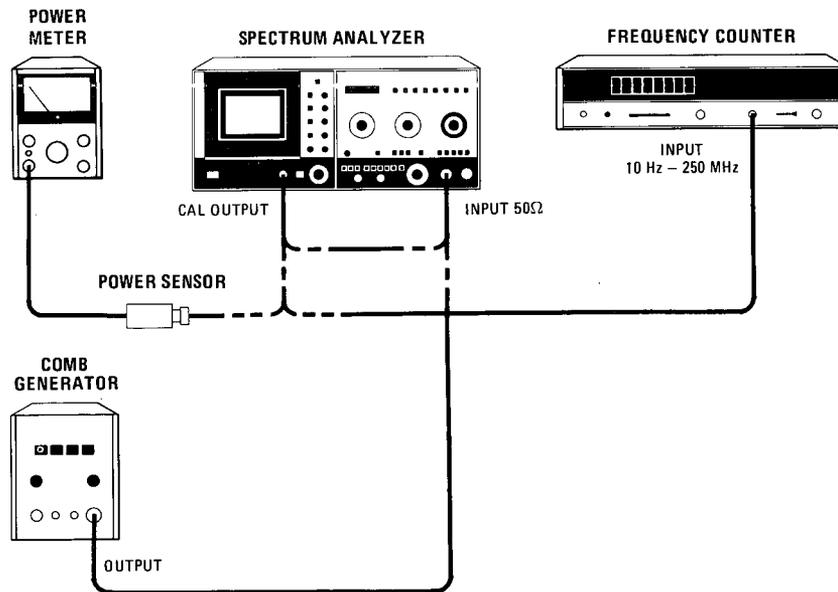

Figure 2-3. Incoming Inspection Test Setup
- a. Connect frequency counter to spectrum analyzer CAL OUTPUT as shown in Figure 2-3. Set the controls as follows: